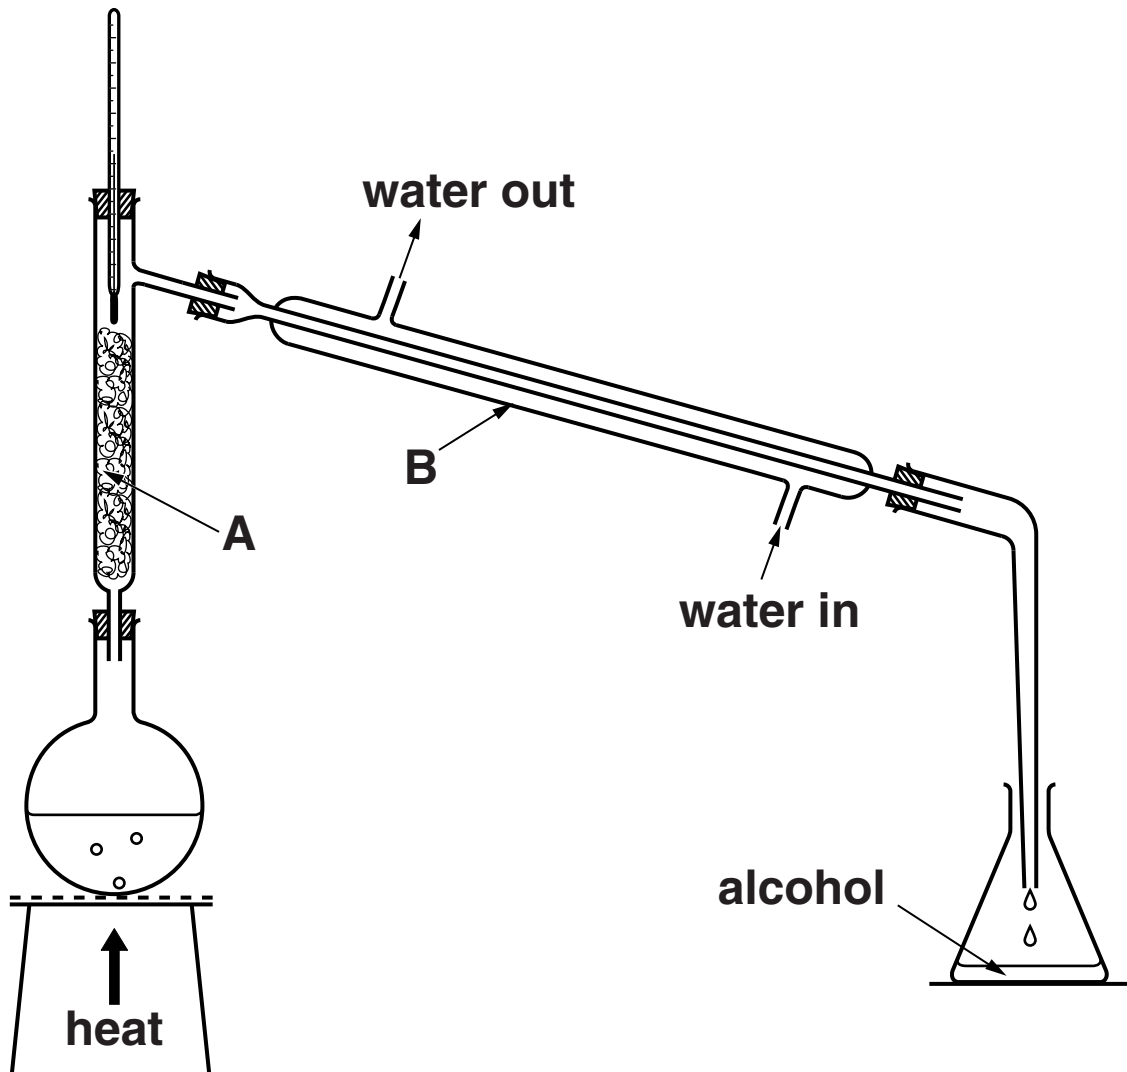

Fig. 3.1
- (ii) The solution that contained 25% sugar was then fermented and the products fractionally distilled to obtain alcohol. The apparatus shown in Fig. 3.1, was used to obtain some alcohol.